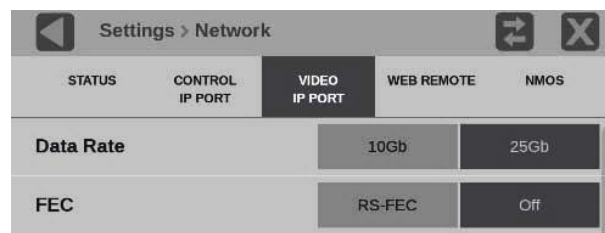

Figure 44: VIDEO IP PORT submenu
3. Select **VIDEO IP PORT** tab to open the submenu. (See Figure 44.)